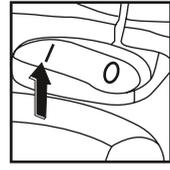

Fig. 5
5. Turn ON the motor into the '1' (ON) position, (Fig. 5)